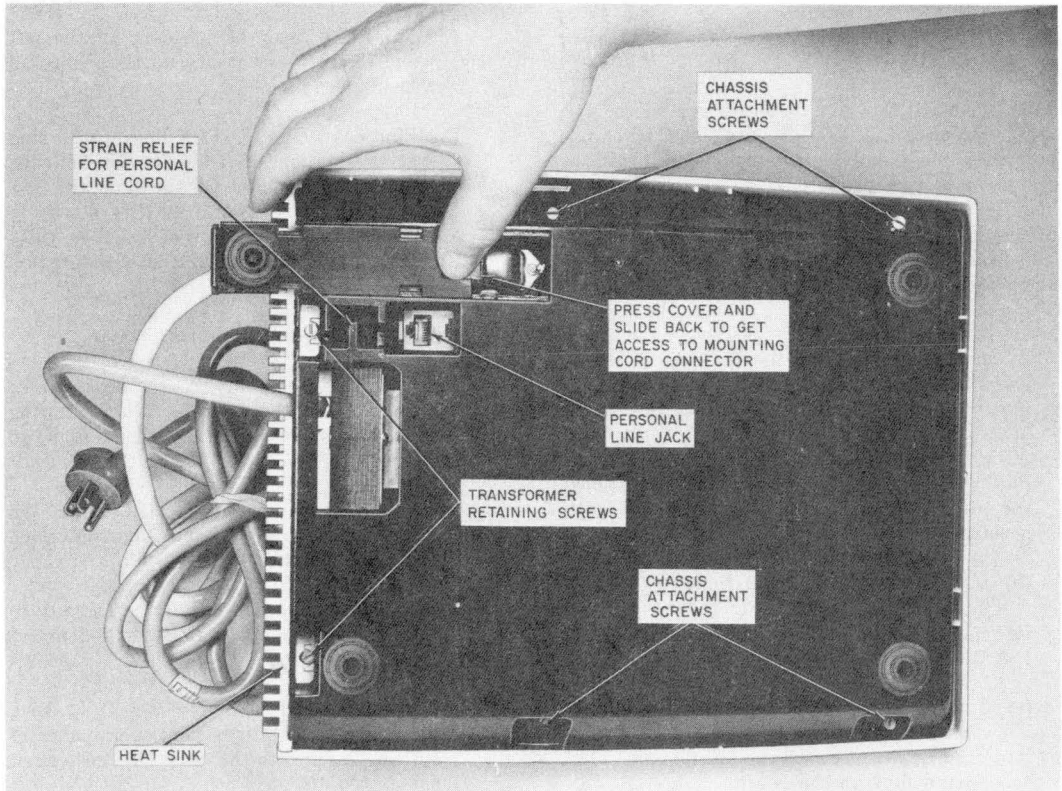

Fig. 20—Primary Set, Bottom View
- (a) Remove the power transformer and heat sink assembly from the back of the set by loosening the two retaining screws under the rear of the set (Fig. 20) and pulling out on the heat sink. It is not necessary to remove the screws but only to back them out about 1/8 inch. Pulling gently on the power cord to dislodge the transformer from the plug inside the set is permissible.